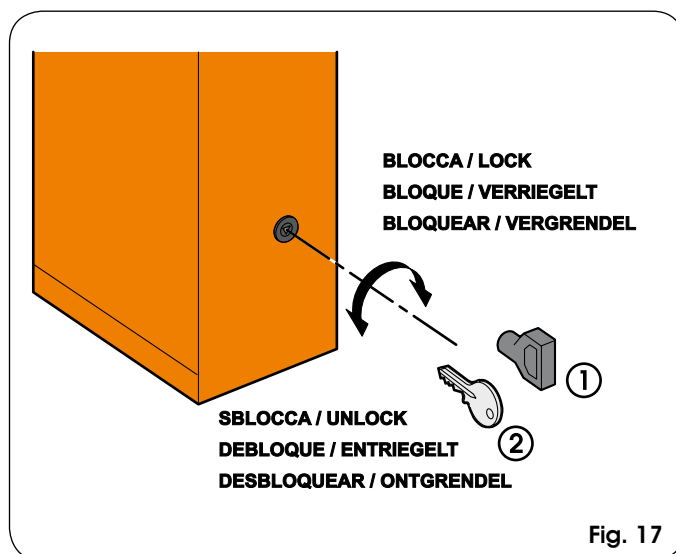

Fig. 17
The supplied release key can be triangular (Fig. 17 ref.①) or customised (Fig. 17 ref.② optional).
- Insert the release key in the lock and turn it **anti-clockwise** through one complete rev. as shown in Fig. 17.
- turn the key **clockwise** until it stops and remove it (Fig. 17 ref. ①)
- turn the key **clockwise** until the point where it can be removed. (fig. 17 ref. ②).